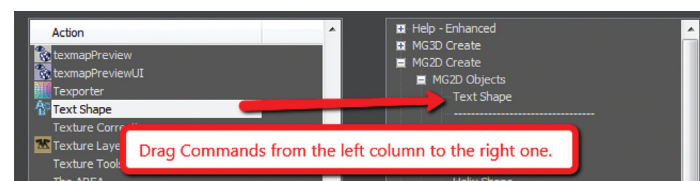

Figure 15: Dragging commands onto the menu
- 3) Drag any commands from the Commands window on the left to the submenu on the right (see Figure 15).